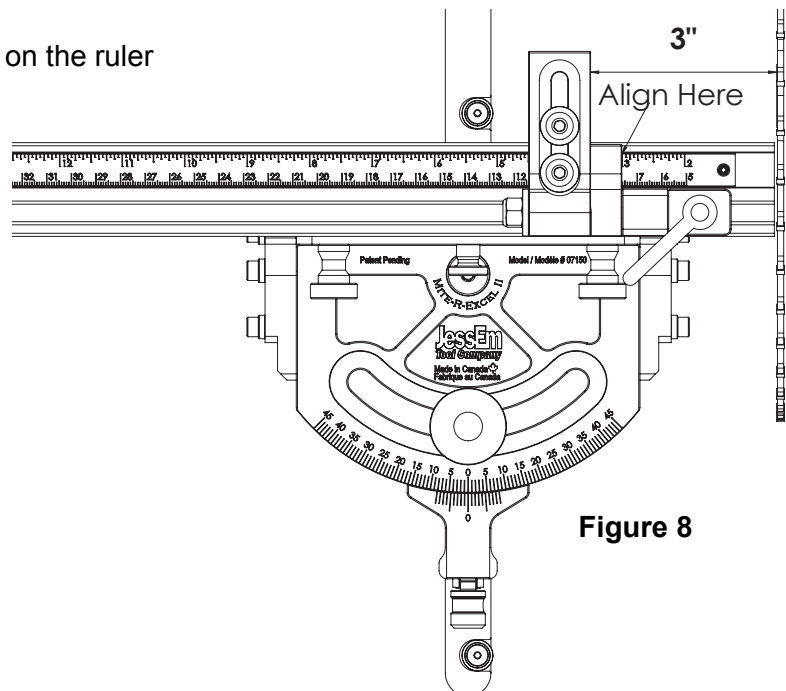

Figure 8
- Slide the flip stop over to the 3" mark on the ruler (See **Figure 8**) and lock it into place.
- e. Add a 3" block of wood in between the blade and flip stop (See **Figure 8**). ****Note:** You can use any size of wood you may have lying around your shop for this step, just be sure to set your flip stop to the appropriate length ******